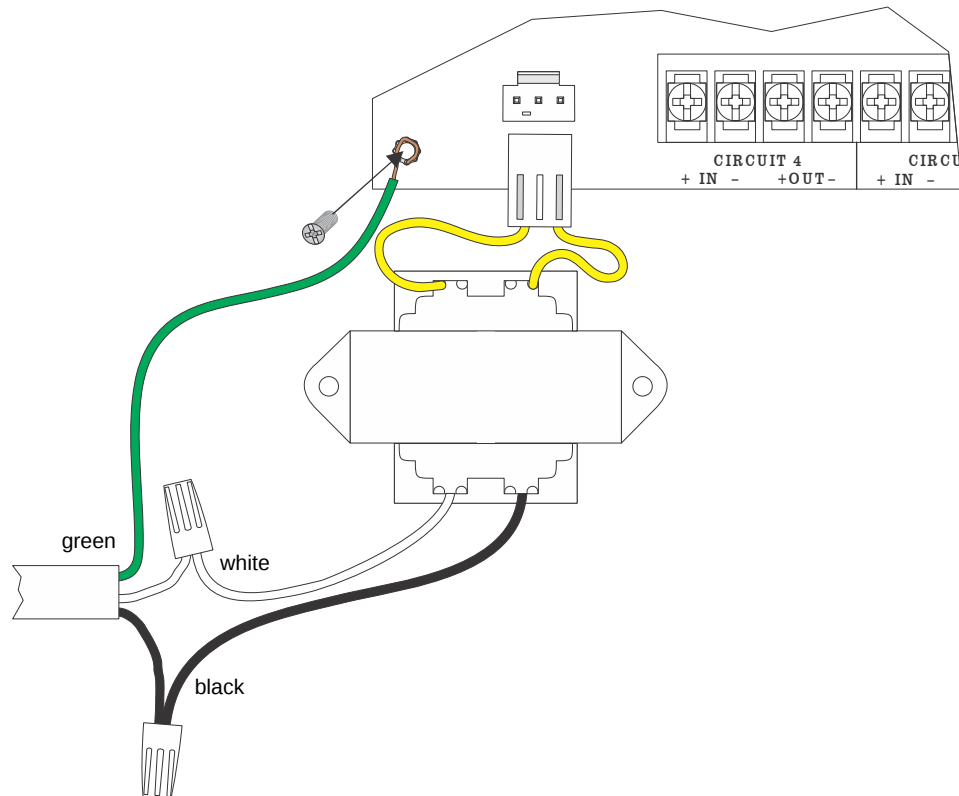

Figure 4.18 AC Connections
4. Connect AC power to the transformer as shown in Figure 4.18.